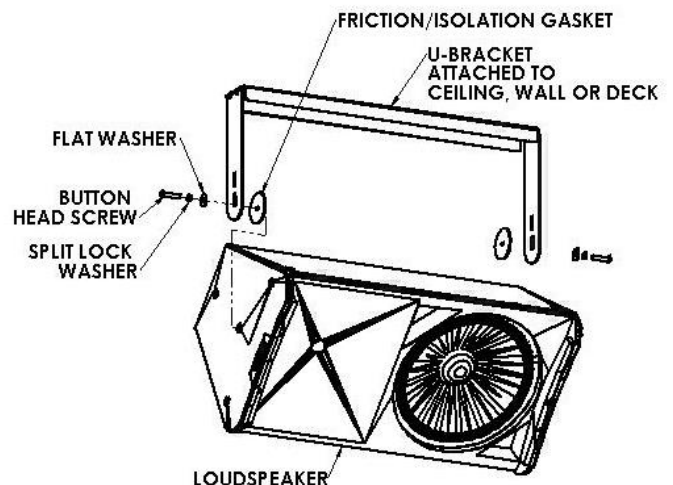

Figure 1
Step 3: Place the speaker between the U-Bracket's arms. Insert the M10 Button head bolt, flat washer and split lock washer (must match the speaker's thread) through the hole in the arms with the sound isolation gasket in between the speaker and the bracket. Thread the bolt into the loudspeaker. Repeat on the other side of the speaker (Figure 1). Do not fully tighten yet.